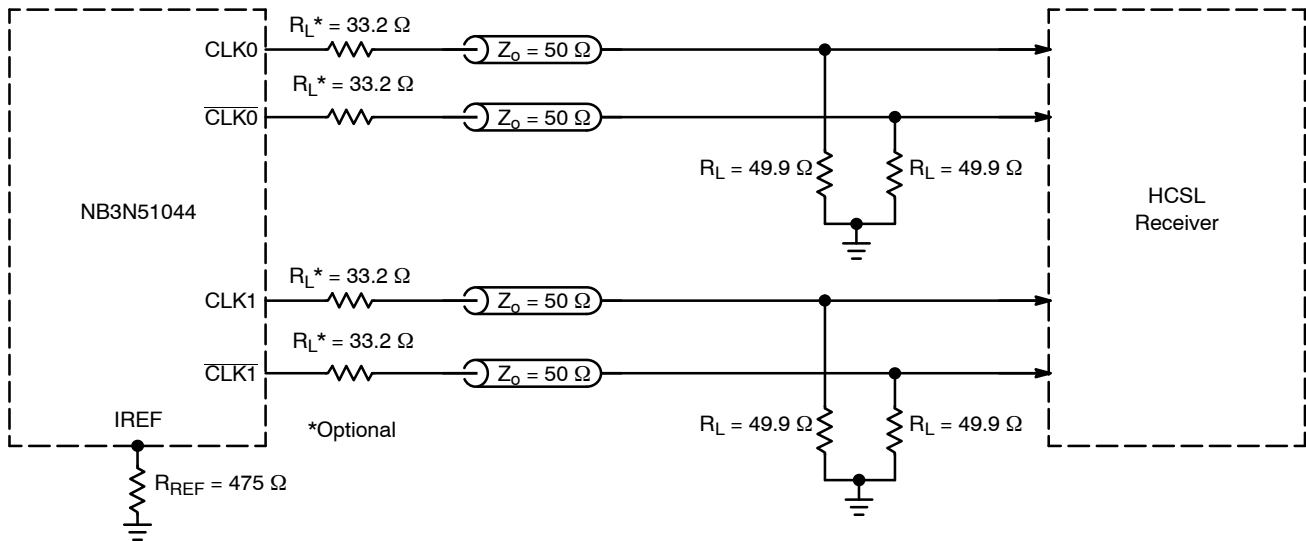
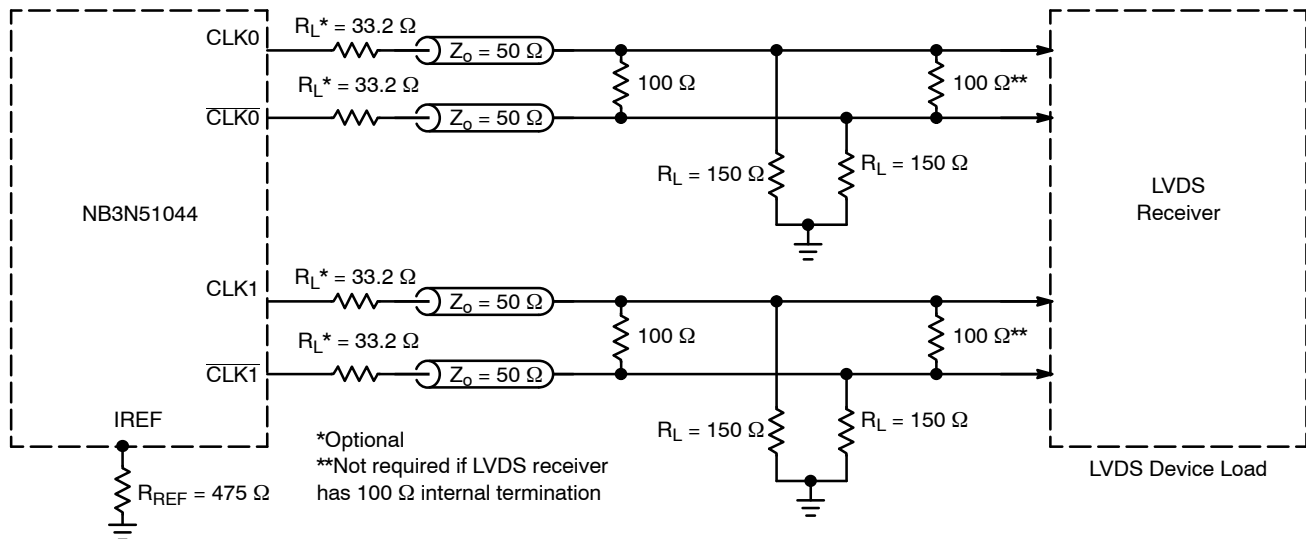

Figure 9. Typical Termination for HCSL Output Driver and Device Evaluation
Figure 10. Typical Termination for LVDS Device Load
4. Measurement taken with outputs terminated with $R_S = 33.2 \Omega$, $R_L = 49.9 \Omega$, with test load capacitance of 2 pF and current biasing resistor set at $R_{REF} = 475 \Omega$. See Figure 9. Guaranteed by characterization.
12. Measurement taken from differential output on single-ended channel terminated with $R_S = 33.2 \Omega$, $R_L = 49.9 \Omega$, with test load capacitance of 2 pF and current biasing resistor set at $R_{REF} = 475 \Omega$. See Figure 9. Guaranteed by characterization.
18. Measurement taken from differential output on single-ended channel terminated with $R_S = 33.2 \Omega$, $R_L = 49.9 \Omega$, with test load capacitance of 2 pF and current biasing resistor set at $R_{REF} = 475 \Omega$. See Figure 9. This parameter is guaranteed by characterization. Not tested in production.
The outputs can be terminated to drive HCSL receiver (see Figure 9) or LVDS receiver (see Figure 10). HCSL output interface requires $49.9\ \Omega$ termination resistors to GND for generating the output levels. LVDS output